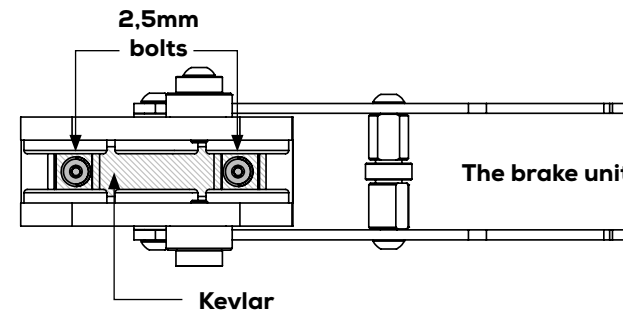

Figure 28
- 6) Use a 2.5mm Allen wrench to loosen the two bolts securing the Kevlar band. See Figure 28.